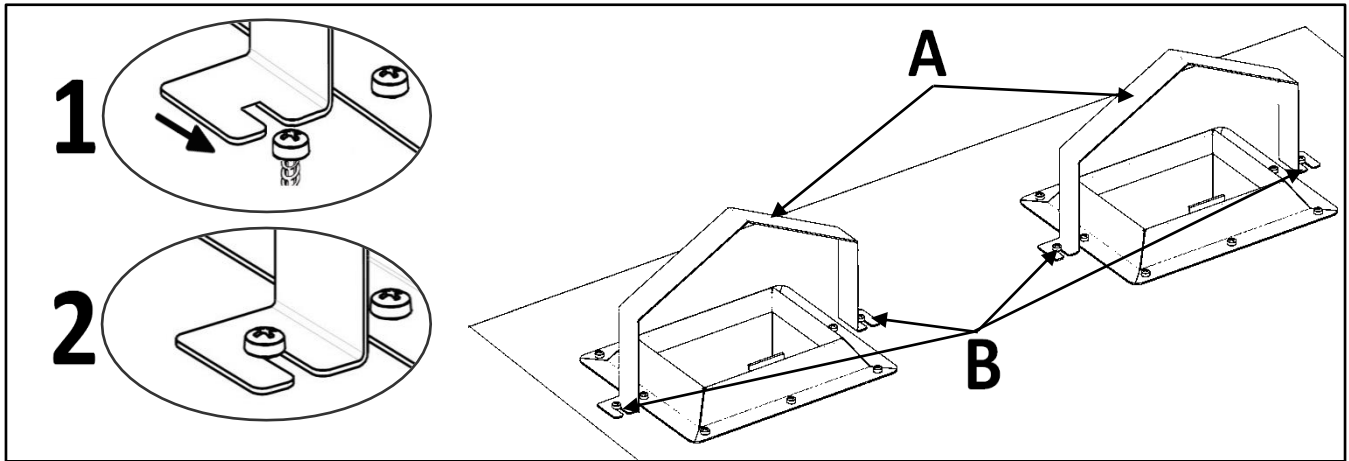

Fig.1
3.6.1 Assembling the "security" brackets (Fig. 1)